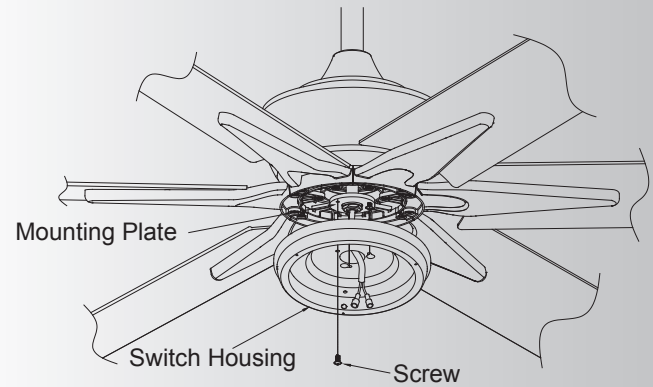

Fig. 19
**Step 1.** Remove one of the three screws and loosen the other two (do not remove). Place the two slot holes on the switch housing over the 2 screws previously loosened from the mounting ring. Rotate the switch housing until it locks in place at the narrow end of the key holes. Securely by tightening the 2 screws previously loosened and the one previously removed. (Fig. 19)